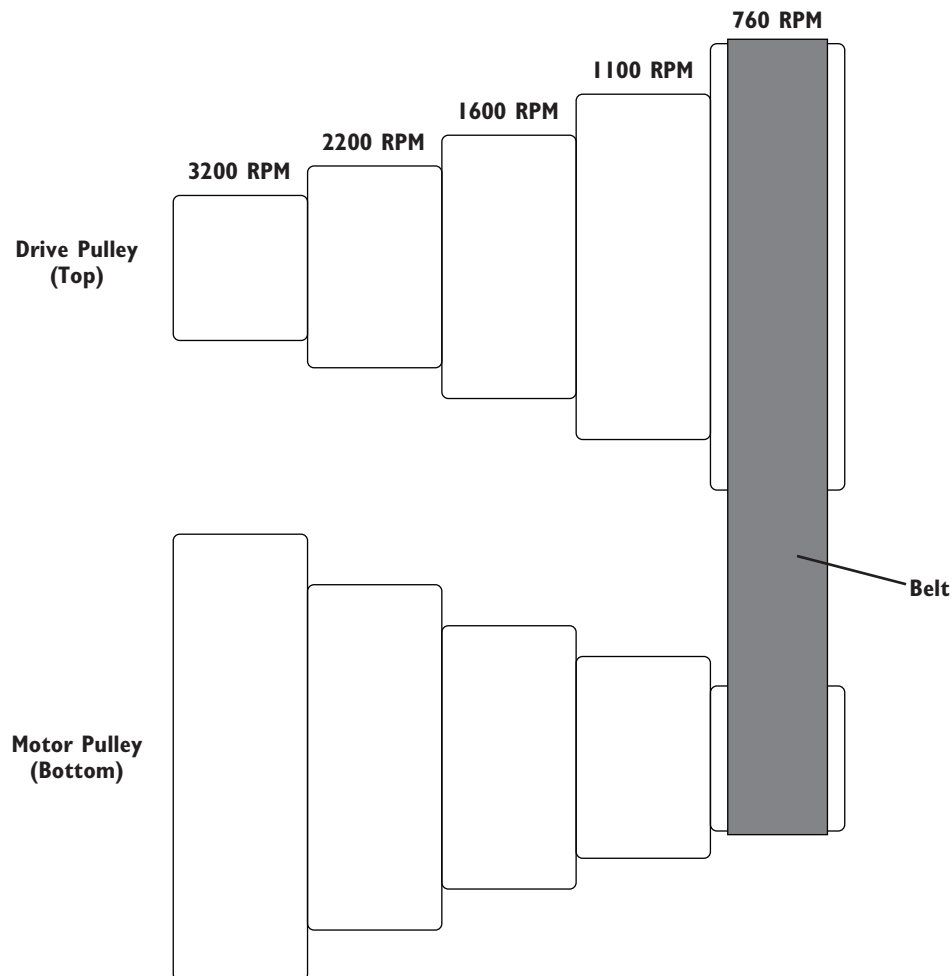

Fig. 2 - Viewed from back of lathe
The 10•18 Mini Lathe can be set at five different speeds: 760 rpm, 1,100 rpm, 1,600 rpm, 2,200 rpm. and 3,200 rpm. **Fig. 2.** To set the lathe speed:
3. Continuing to lift the Belt Tension Lever as necessary, move the Drive Belt to the appropriate set of pulleys for the speed you want. Make sure that the belt is securely positioned on complementary top and bottom pulleys. Do **NOT** position the belt so that it is running at an angle. **Fig. 2.**